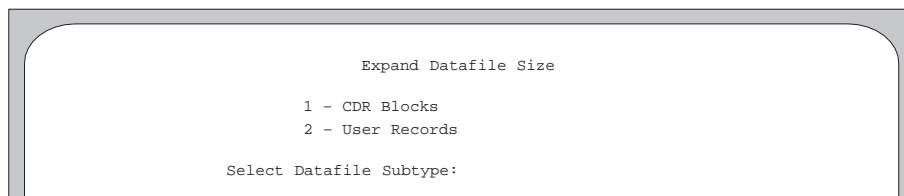

Figure 12-9. Expand Datafile Size Menu.
8. From menu 20, access the Datafile Utilities, then the Expand Datafile Size menu, as shown in Figure 12-9.